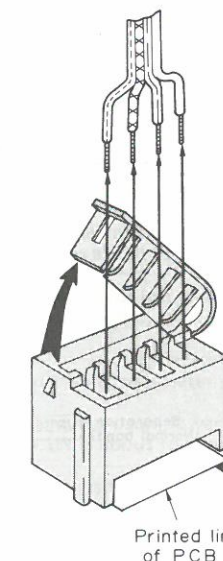

Fig. 11
1. To disconnect the lead wires from the lead connector, open the "lead holder" of the connector as shown in Fig. 11, and pull out the lead wires.
2. The lead wires are provided with identification colors or patterns as in Fig. 11. So, insert them into the connector in correct positions.